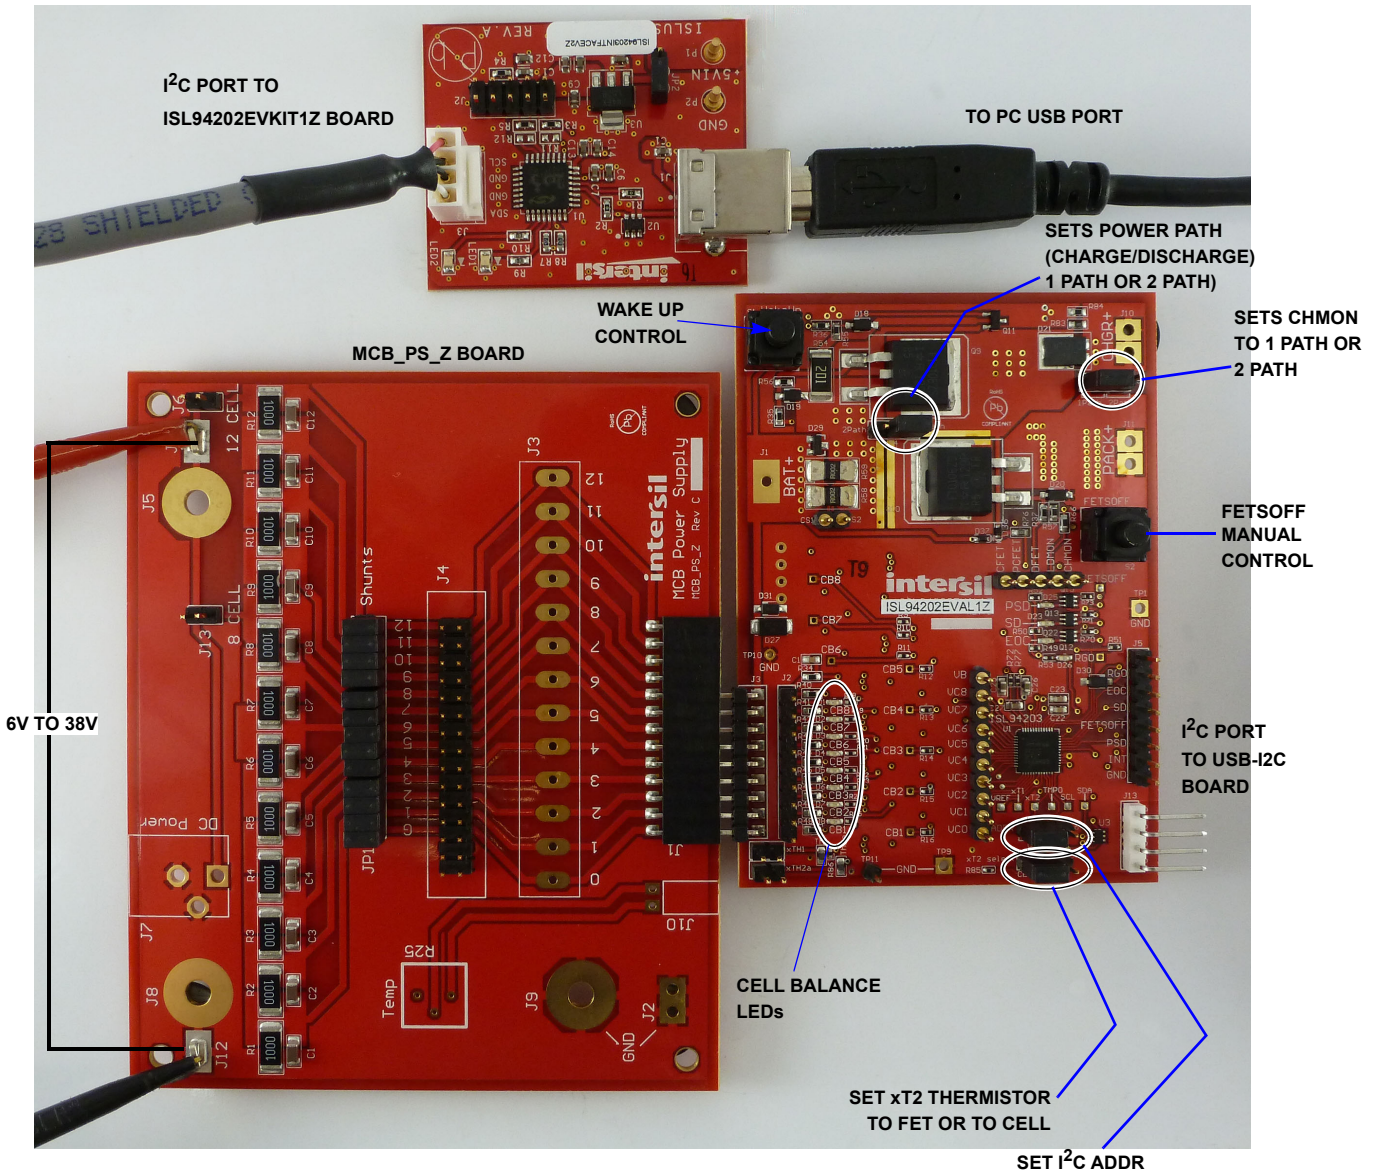

FIGURE 4. ISL94202EVKIT1Z BOARD SETUP
**Step 5:** Connect the ISL94202 board directly to the MCB\_PS\_Z board at connector J1. Make sure the board is connected on the ground side of J1 (see Figure 4).